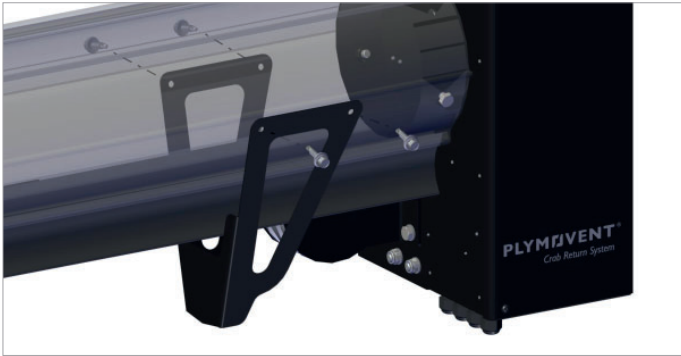

Fig. 5.3.6 Mounting the stop bracket
- Mount the stop bracket to the rail using self-tapping screws $\frac{1}{4} \times 1$ in. (6.3 x 25 mm). Refer to fig. 5.3.6.